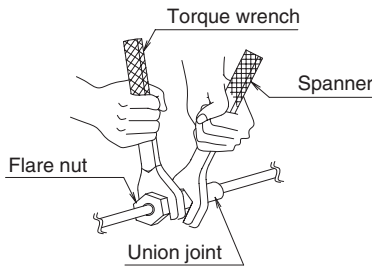

Fig. 9
- When connecting the pipings to the air conditioner, make sure to use a spanner and a torque wrench as shown in Fig. 9.